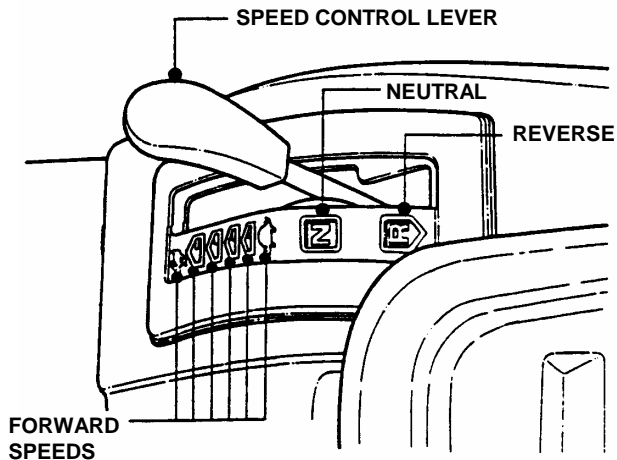

FIGURE 2.7
4. Slowly shift speed control lever forward for forward motion or to the rear for reverse motion. See Figure 2.7.